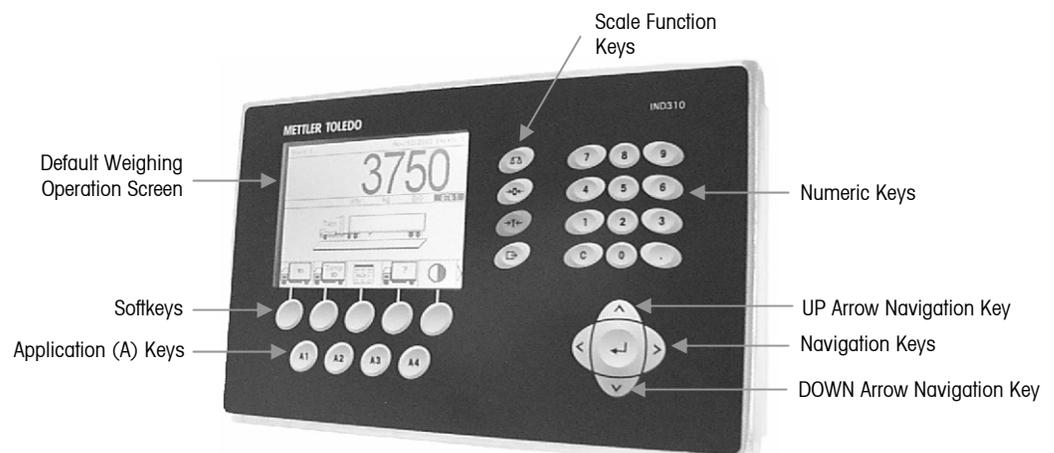
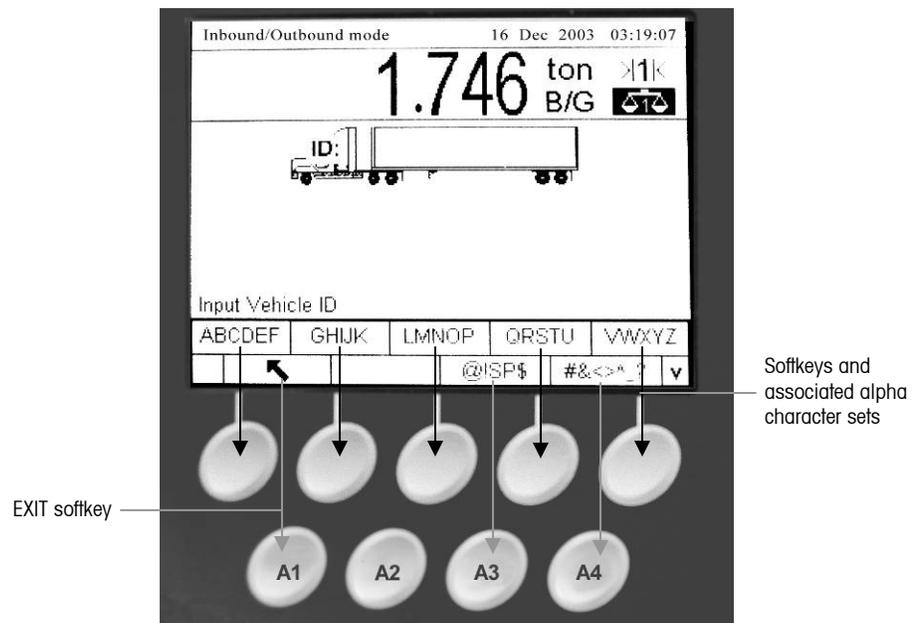

Figure 2-4: Key Locations and Default Weighing Operation Screen
Figure 2-5: Alpha Keys
The locations of the above listed keys and the default weighing operation screen are shown in Figure 2-4.
Five softkeys are located along the bottom of the display screen (see Figure 2-4). Some screens might have up to three pages of softkeys for a total of 15 possible functions. A DOWN ARROW icon  displayed on the lower-right corner of the screen (to the far right of the softkey icons) indicates that more softkey selections are available. Press the DOWN arrow navigation key to display additional softkey screens. Press the UP arrow navigation key to display the previous softkey screen. See Appendix F for information regarding Softkey Setup.
Application keys (A keys) are located below the softkeys (see Figure 2-4) and are labeled
Scale function keys (see Figure 2-4) are:
Navigation keys (see Figure 2-4) enable navigation within the setup menu tree, setup screens, and application screens. Navigation keys include:
Use the terminal's 12-key numeric keypad (see Figure 2-4) to enter data and commands.
On some setup pages, soffkeys and application keys function as alpha keys (see Figure 2-5) that are used to enter alphabetic characters for setup parameters such as passwords.
To use alpha keys, position the cursor in the data entry location (see Navigation Keys), press the soffkey or application key associated with the desired set of alpha characters as shown in Figure 2-5. The soffkeys change to display each alpha character included in the selected set of alpha characters. Use the UP and DOWN arrow navigation keys (see Figure 2-4) to switch between upper-case and lower-case characters. Press the key associated with the specific alpha character
2. Once the vehicle is on the scale, press the VEHICLE ID softkey. A vehicle ID prompt displays with a cursor in the Vehicle ID field. The softkeys and application keys become alpha keys (see Figure 2-5).
- A. Enter the ID information at the temporary ID prompt that displays with a cursor in the ID field. The softkeys and application keys become alpha keys (see Figure 2-5).